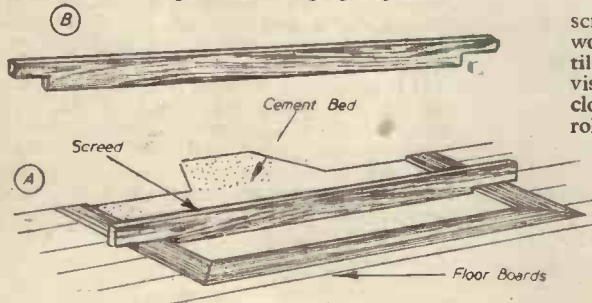

Fig. 2.—Using a "screed" for levelling the cement bed on a hearth.
hardwood, about 2in. wide, and flush with the floorboards, as shown at A, Fig. 2. Make a "screed," or traversing rule (B) from a piece of wood 2in. wide and 3/4in. thick, and notch the ends to a depth slightly less than the thickness of the tiles.
mix some Portland cement with water to form a stiff plastic mass. With a brush dipped in water thoroughly damp the surface of the old hearth, spread the cement mixture over it with a trowel, and level it by passing the screed slowly to and fro (while resting on the wood edging), as shown in Fig. 2.